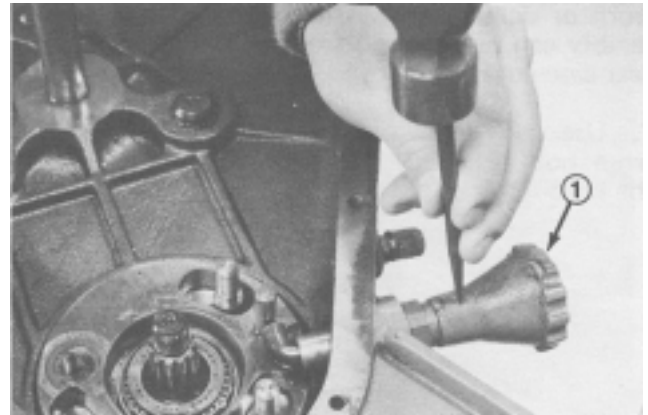

Figure 27
14. For removal of the throwout handle (Fig. 27), O-ring and finger, drive pin from throwout handle. Remove throwout sleeve by turning counterclockwise.